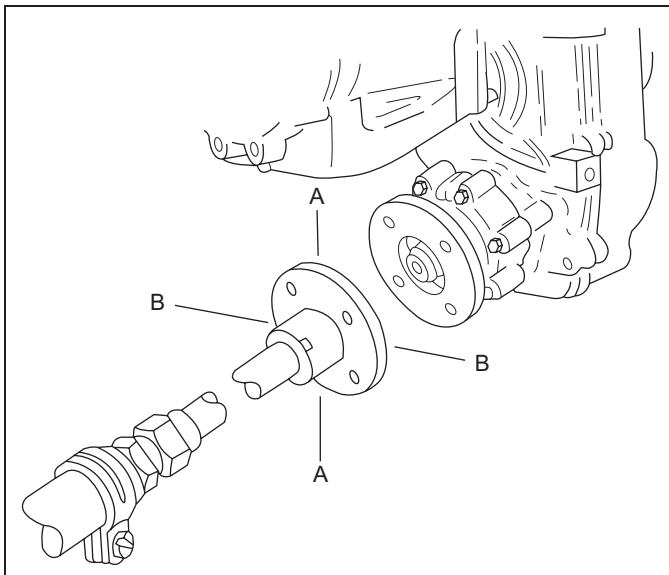

Figure 10-21 Centering Prop Shaft
2. Center the propeller shaft in the shaft log as follows (Figure 10-21):